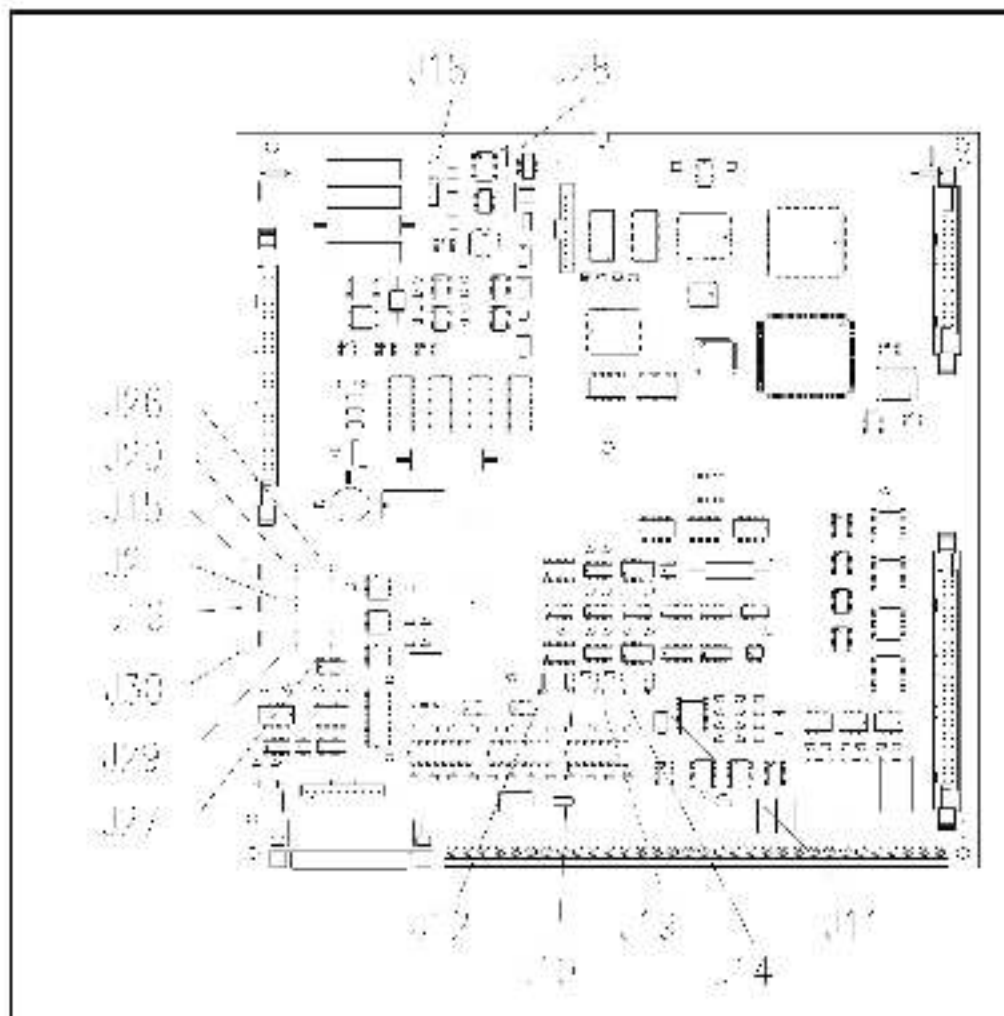

Figure 3-3 – Regulator Board Jumpers
- Step 3. The jumpers are located on the Regulator board. See figure 3.3 for jumper locations.